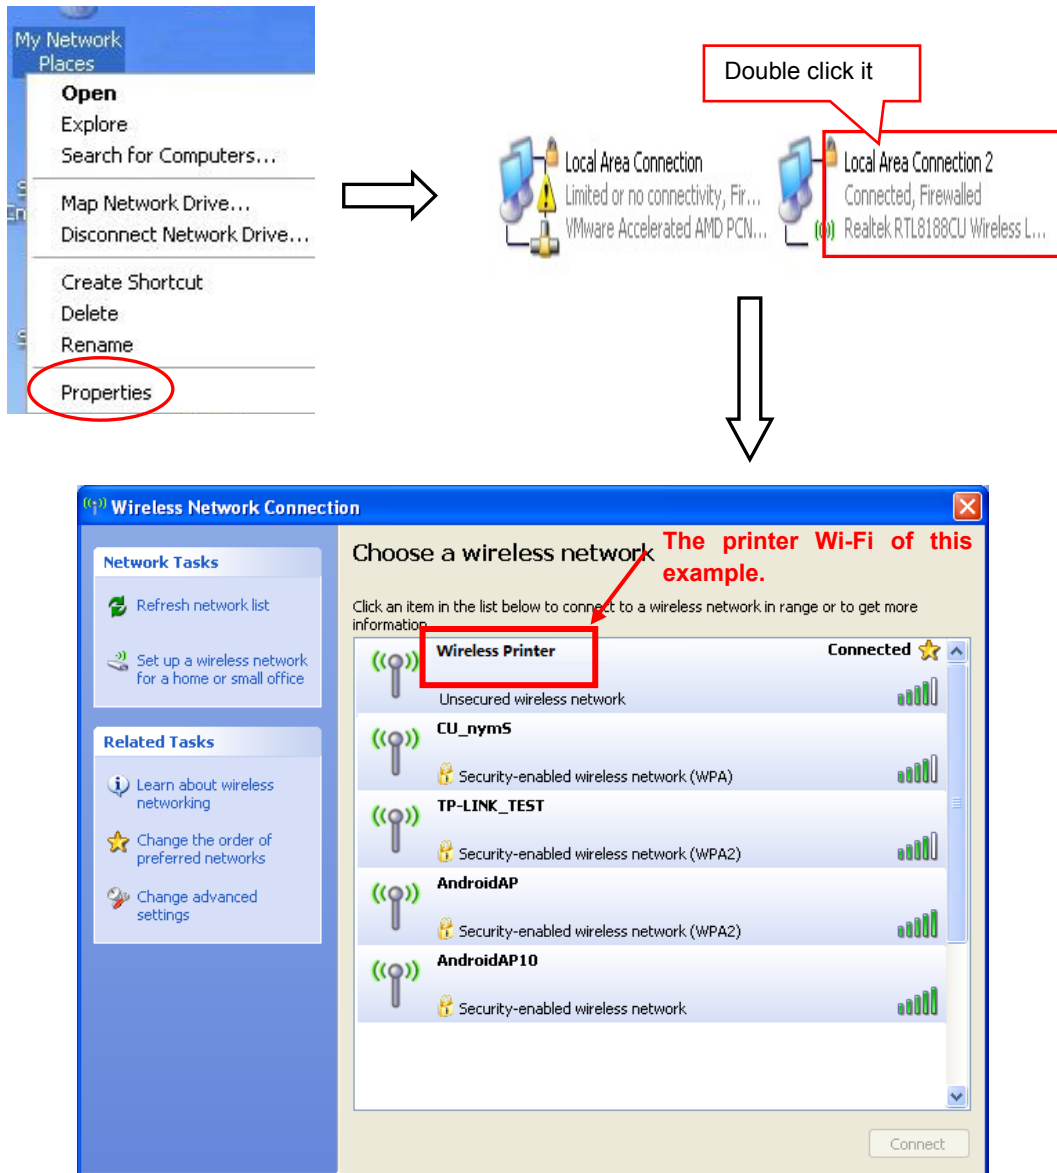

Figure 1
2. Right click “My Network Places”, and then click “Properties” to find the “Local Area Connection 2”. Double click it and the window of “Wireless Network Connection” pops up, select and double click the corresponding printer Wi-Fi name. The printer Wi-Fi default name is composed of “the printer model+6 numbers and letters” (as shown in Figure 1)